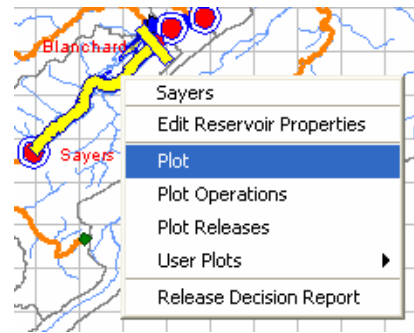

Figure 14.26 Shortcut Menu for an Element
1. Right-click on the element where you want the plot to appear, and select **Plot** from the shortcut menu (Figure 14.26). The default plot for that location will appear.